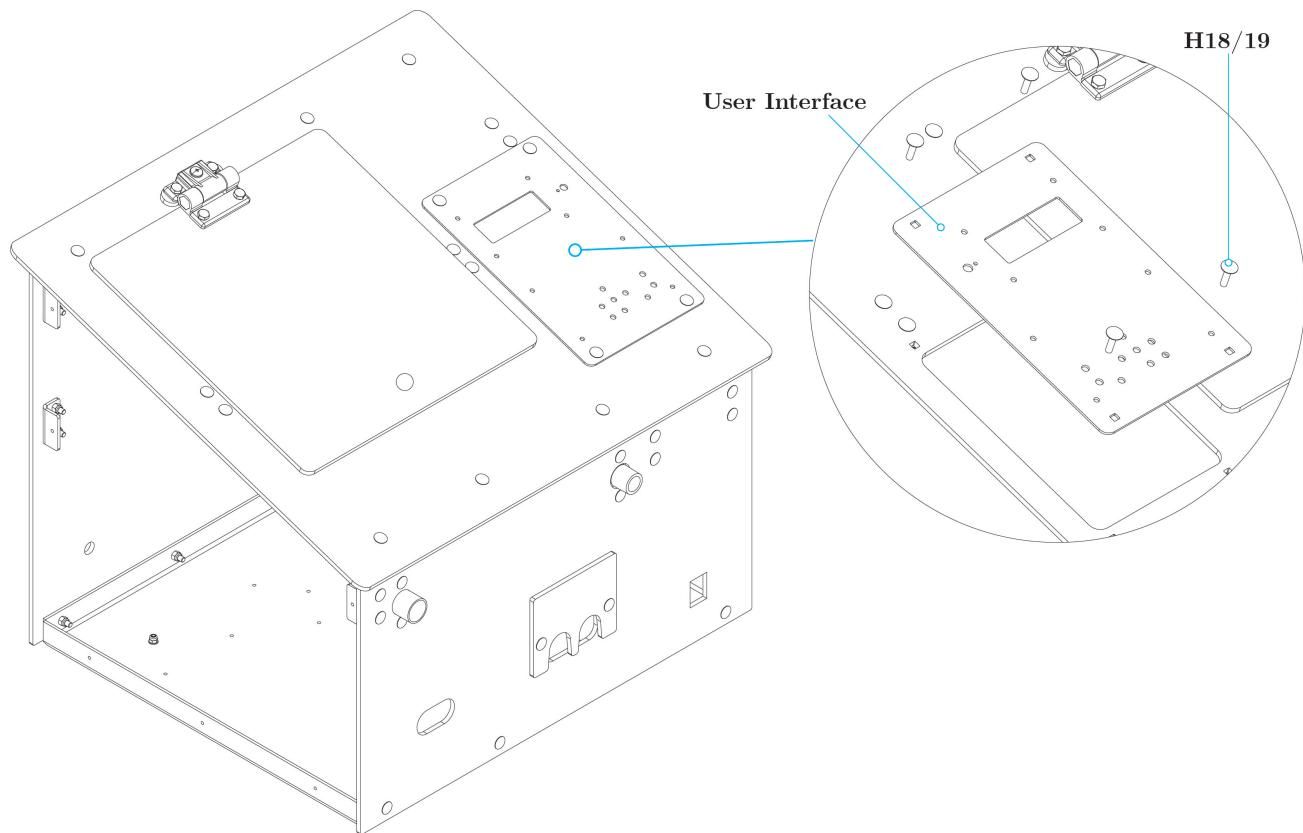

Figure 18: Mount Monitoring Panel to Top Plate
1. Place HA1 onto HA4 as illustrated in figure 18 and fasten it with 8x H18 Carriage Bolts and H19 Nuts.
1. Position the Monitoring Panel onto the opening in the Top Plate as shown in figure 18.